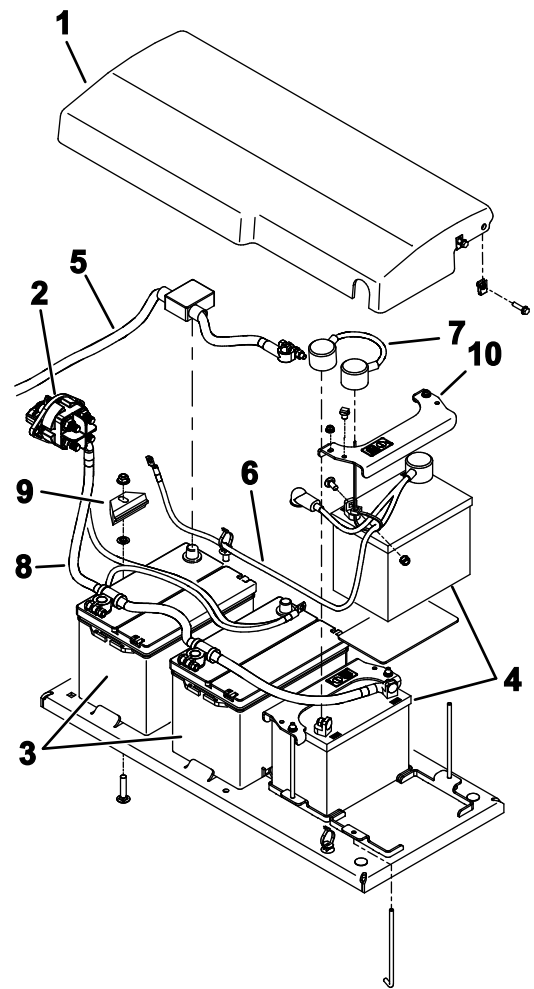

Figure 110
6. Remove the fasteners that secure the battery cover to the machine and remove the cover (Figure 110).
9. Carefully remove the batteries from the machine (Figure 110).
1. Secure the batteries with the hold downs (Figure 110).